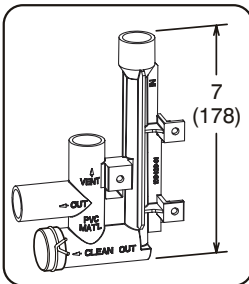

FIGURE 49
- 3 - Install the cap over the clean out opening at the base of the trap. See figure 49.
- 4 - Install drain trap using appropriate PVC fittings, glue all joints. Glue the provided drain trap as shown in figure 49. Route the condensate line to an open drain.